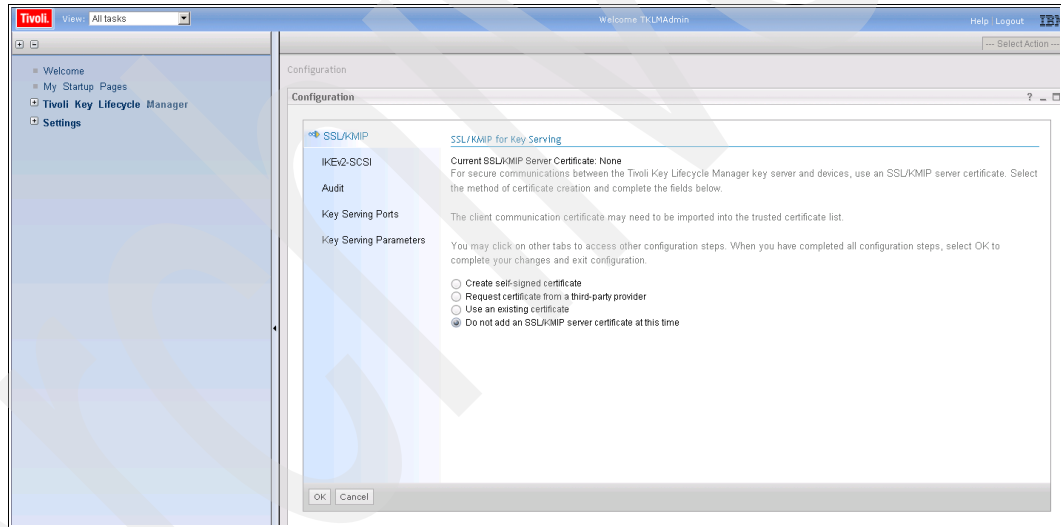

Figure 6-25 TKLM\_v2\_config
25. The first TKLM configuration screen is displayed (Figure 6-25).